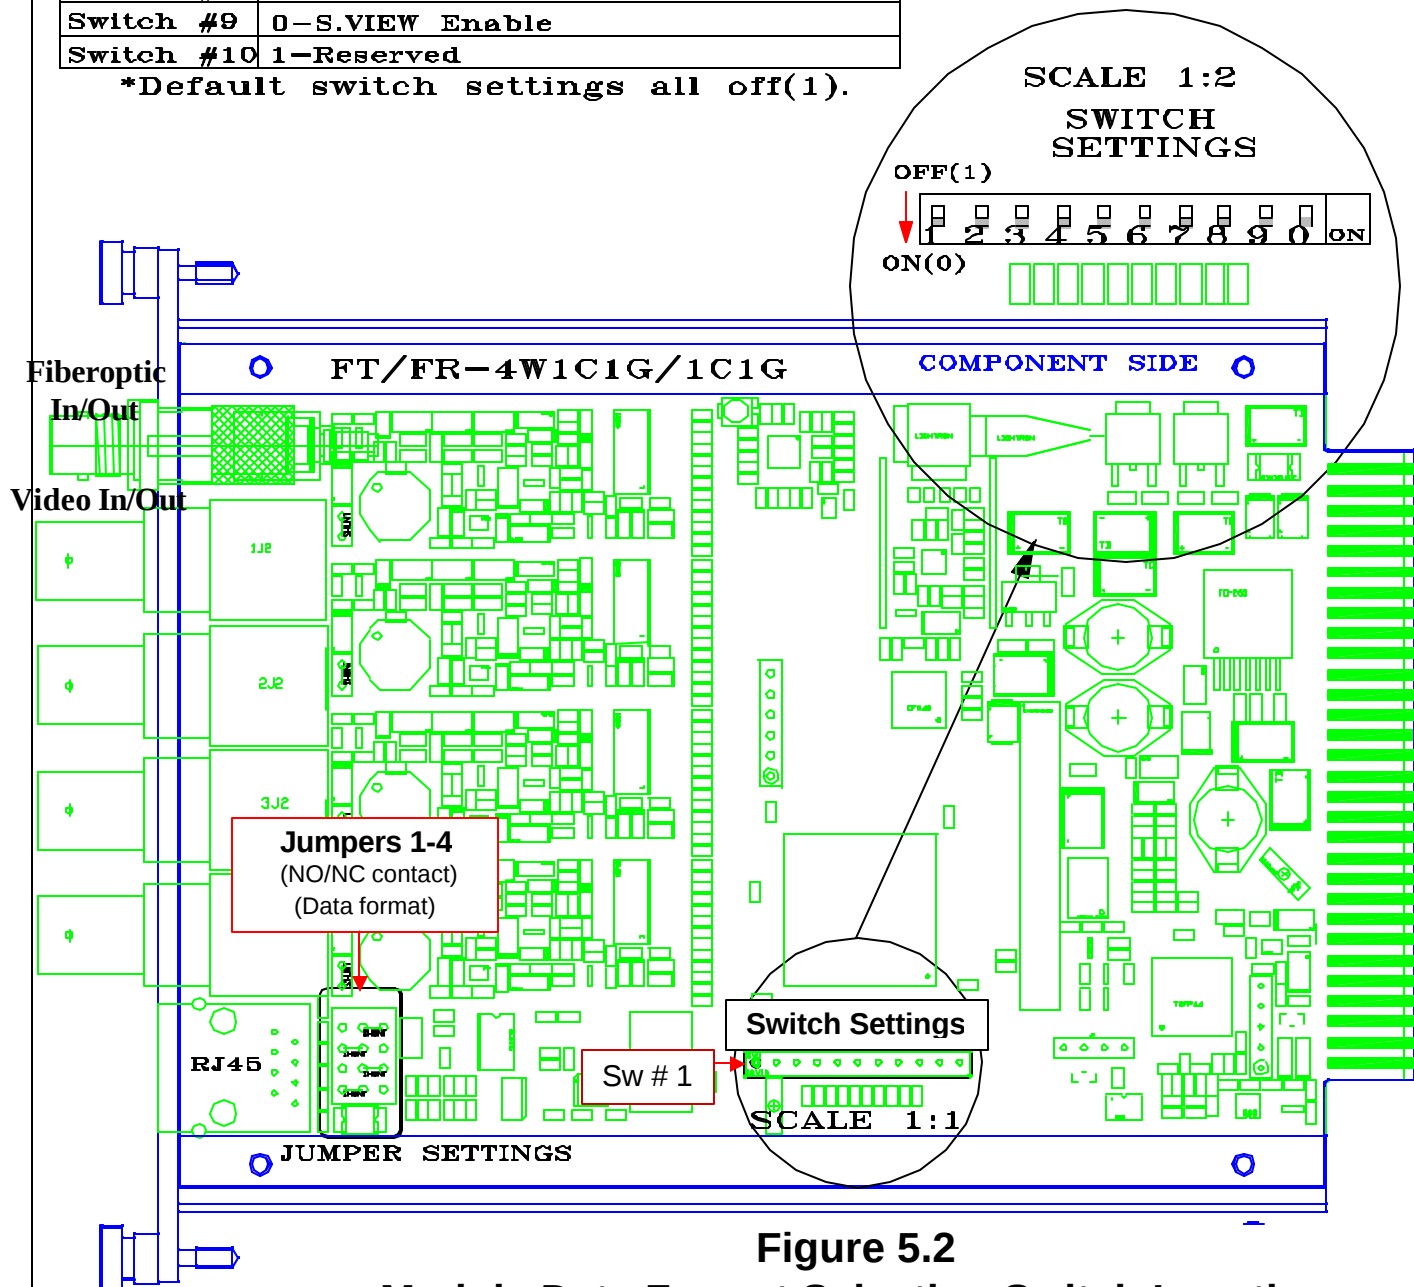

Figure 5.2
The sections below illustrate how to change the various contact mapping conditions. For jumper and switch locations see Figure 5.2
A group of 10 switches is located on the bottom center of the module’s circuit card (see Figure 5.2). The left two (2) of these switches control the data format that is transmitted/received. These switches on both the transmitter and receiver must be set the same in order to have proper data communications format between them. FT and FR modules can be configuring different for data format conversion (see Figure 5.1)